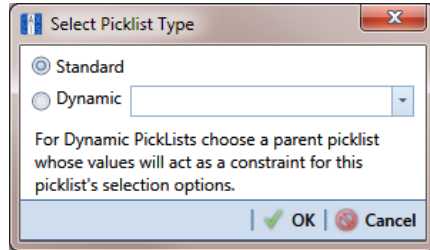

Figure 3-45. Select Picklist Type
- 4 Click  **Picklist** in the toolbar of the *Field and UDF Customizations* window to open the *Select Picklist Type* dialog box (Figure 3-45).